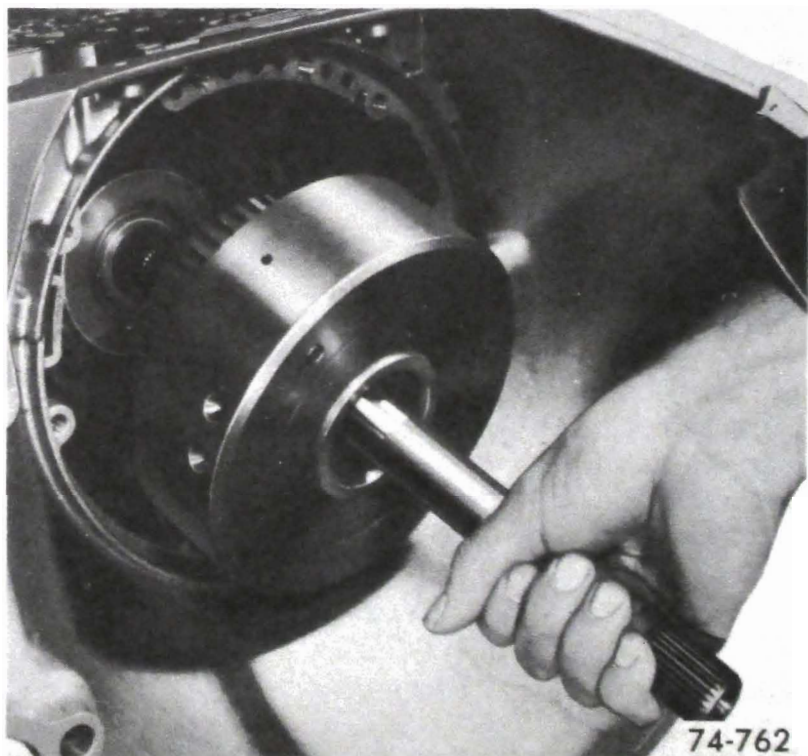

Figure 76-257
19. Install the forward clutch and turbine shaft assembly, see Figure 76-257, indexing the direct clutch hub so end of the mainshaft will bottom on end of the forward clutch hub. When forward clutch is seated it will be approximately 1-1/4" from pump face in case.